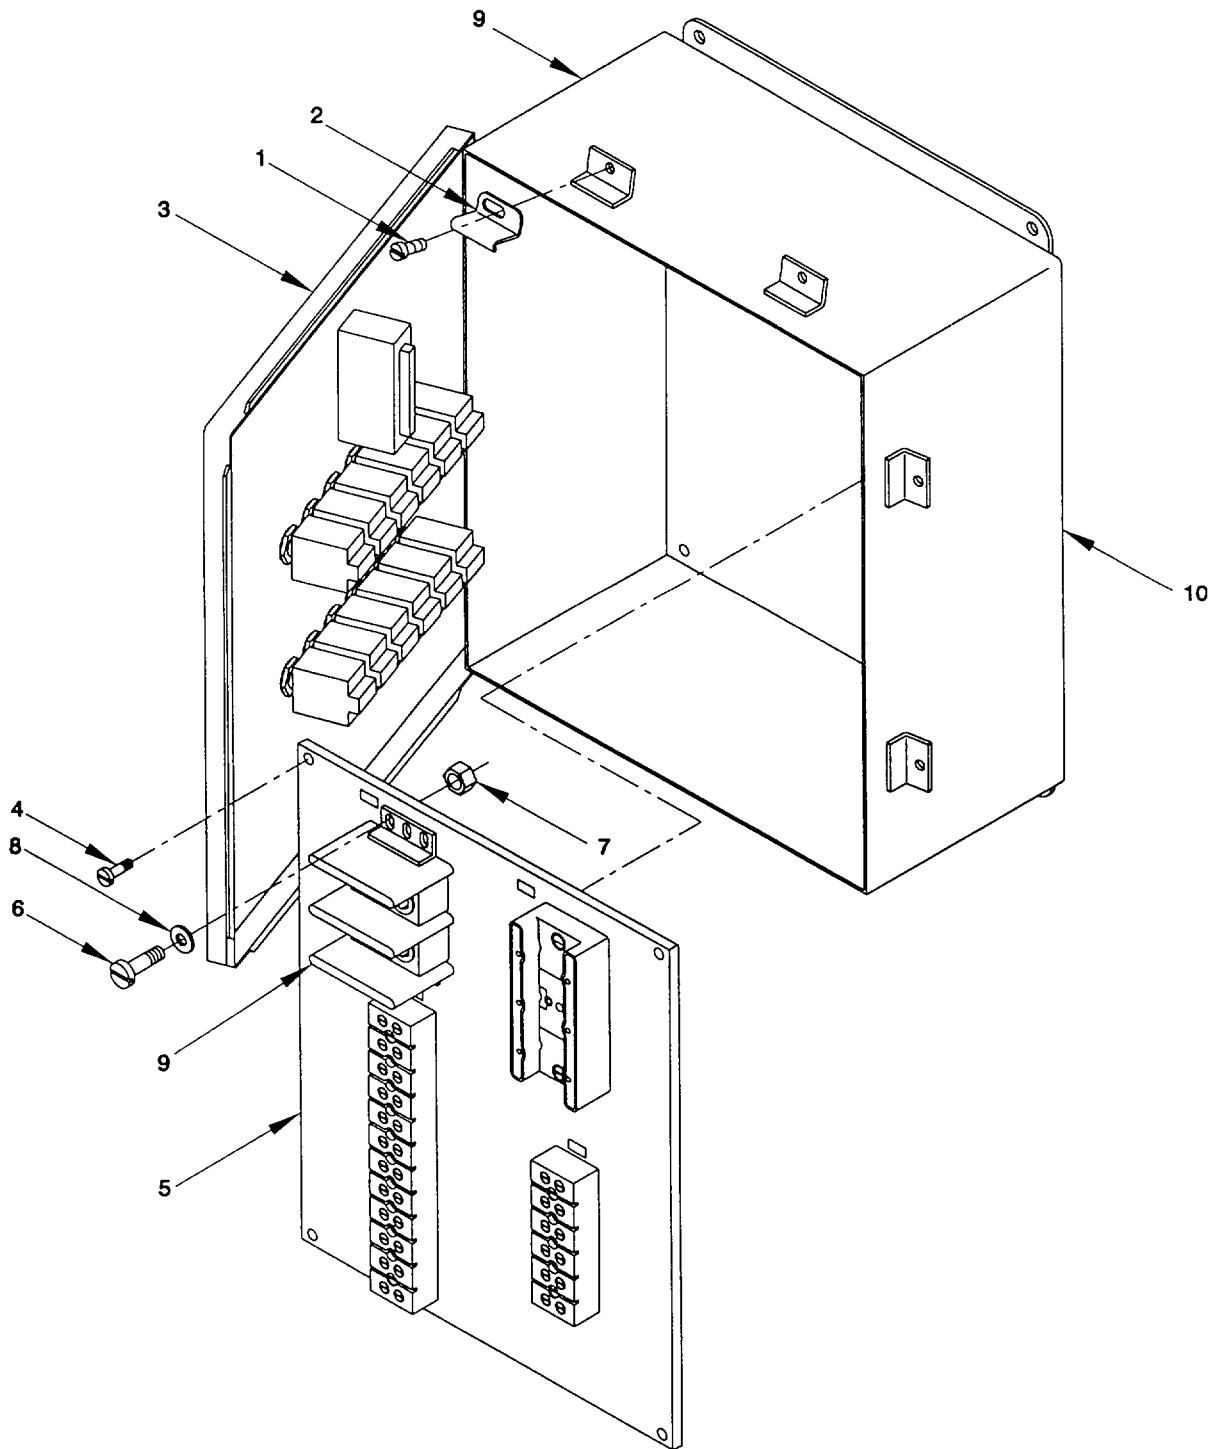

Figure 2-65. Power Block, Propulsion Module Circuit Breaker Panel "A6", Remove/Install
a. Remove. (figure 2-65)
- (1) Remove six screws (1) and six clamps (2) securing cover (3) to enclosure (10). Swing cover (3) open.
- (2) Disconnect and tag electrical wiring to power block (9). Refer to Appendix G.
- (3) Remove four screws (4) securing panel (5) to enclosure (10). Lift panel (5) enough to access the rear of the panel (5).
- (4) Remove four round head screws (6), four insert nuts (7) and four flat washers (8) securing power block (9). Remove power block (9).
b. Install. (figure 2-65)
- (1) Apply sealing compound to screws (1, 4 and 6) and connection compound to terminals on power block (9).
- (2) Install new power block (9). Secure power block (9) with four round head screws (6), four insert nuts (7) and four flat washers (8).
- (3) Install panel (5) in enclosure (10). Secure panel (5) with four screws (4).
- (4) Reconnect electrical wiring, as tagged, to power block (9). Refer to Appendix G. Use tie wraps to secure any loose wires.
- (5) Close cover (3) and secure with six clamps (2) and six screws (1).